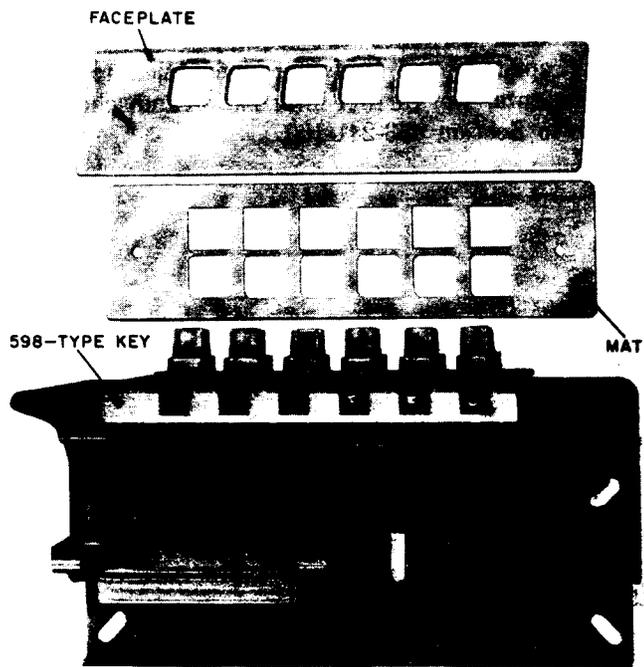

Fig. 12—397A Key Mounting With 598-Type Key Installed (Cover Removed)
2.33 The *397A* key mounting (Fig. 12) consists of a metal frame, plastic housing, clear plastic faceplate, and five paper mats for a choice of color contrasts. The mat colors are silver, gold, blue, green, and cream white. The key mounting is used to secure a 598- or 599-type key to the customer housing. For button color information, refer to Section 512-230-100. Refer to Section 512-210-401 for connection information.